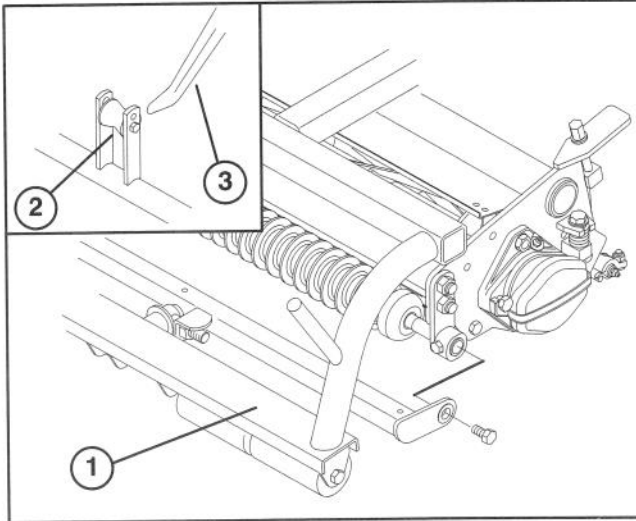

Figure 6
2. Slide the cutting unit under the pull frame while hooking the lift roller onto lift arm (Fig. 6).
3. Mount traction unit pull frame to cutting unit with (2) shoulder bolts.